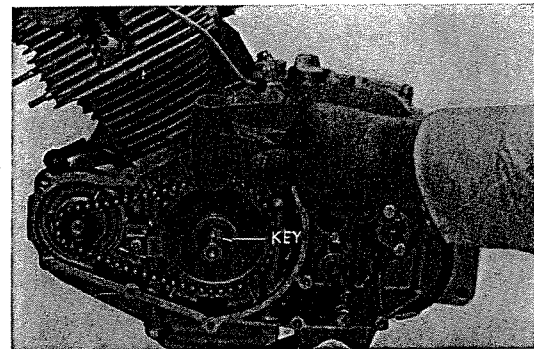

Fig. 3.46 Example of rotor locating key set operation
- (b) AC generator stator coupled in the left crankcase cover can be separated by removing the three 6×28 bolts. (Refer to Fig. 3.46)